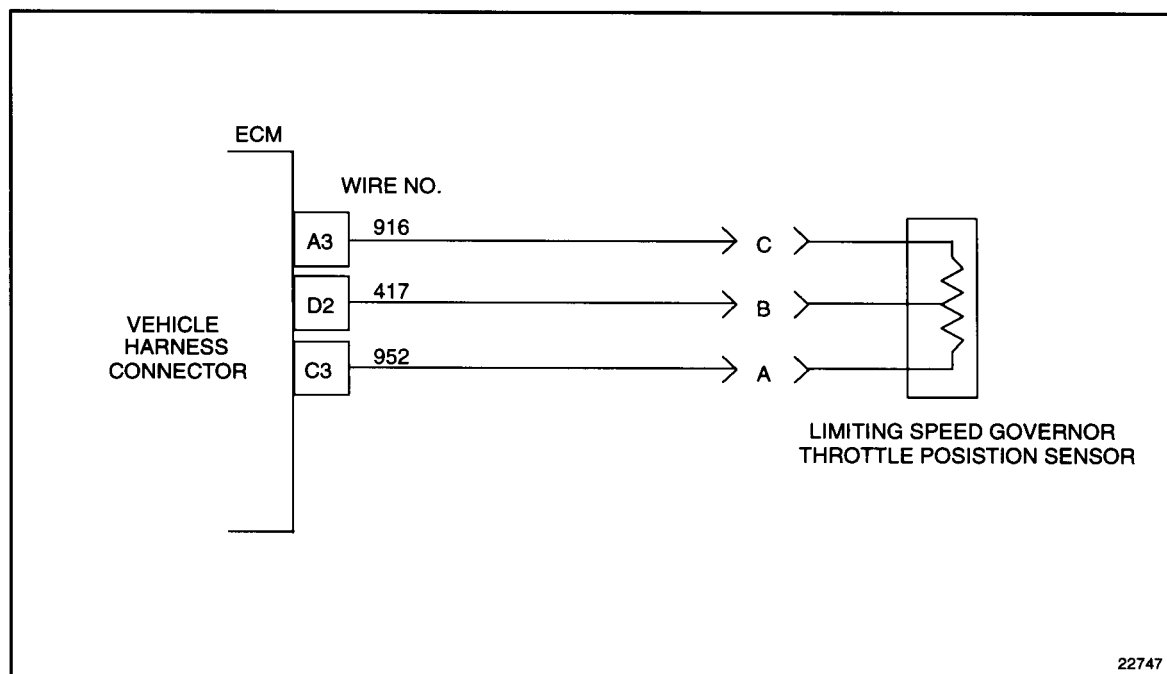

Figure 22-2 Throttle Position Sensor
3. Install a jumper wire between sockets B (signal #417) and C (5V supply #916); see Figure 22-2.